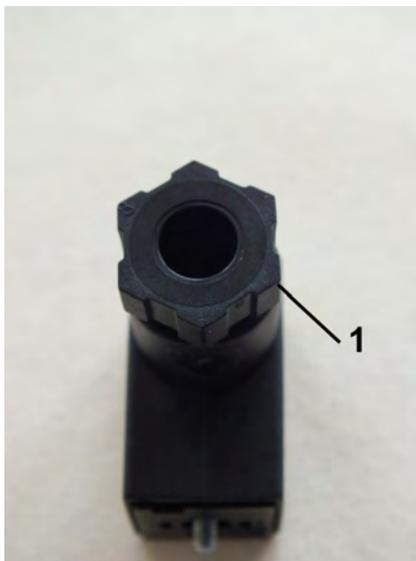

Fig. 25: Disconnect the screw connection
4.  Disconnect the screw connection (Fig. 25/1) by turning it to the left
8.  Tighten the screw connection (Fig. 25/1) by turning it to the right.